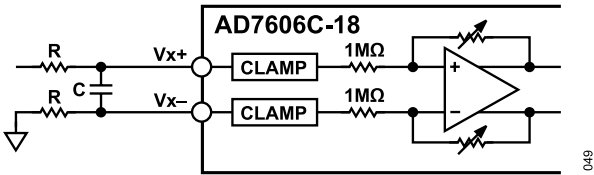

Figure 77. Input Resistance Matching on the Analog Input of the AD7606C-18 for Single-Ended Ranges (Vx- Tied to Ground)
It is recommended to place a series resistor on the analog input channels to limit the current to ± 10 mA for input voltages greater than ± 21 V. In an application where there is a series resistance (R) on an analog input channel, Vx+, it is recommended to match the resistance (R) with the resistance on Vx- to eliminate any offset introduced to the system, as shown in Figure 77. However, in software mode, a per channel system offset calibration removes the offset of the full system (see the System Offset Calibration section).